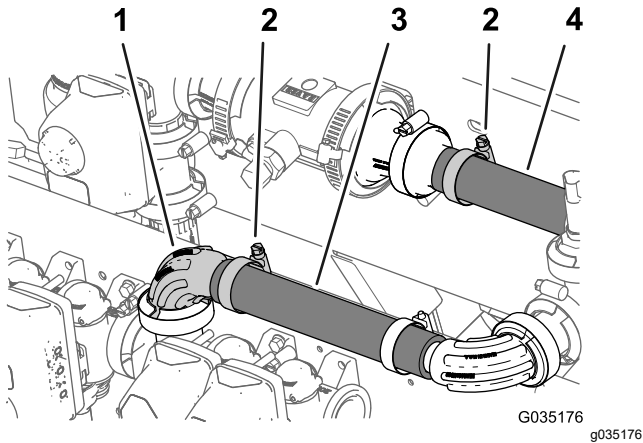

Figure 64
- Assemble the hose (1 x 8-1/2 inches) over the 90° flange fitting (1 inch) as shown in Figure 64.
- Secure the hose to the flange fitting with a hose clamp (Figure 64).
- Tighten the hose clamp that secures the hose (1 x 7-1/4 inches) to the barbed-flange fitting (1 inch) that you assembled in Installing the Pressure Transducer onto the Machine \(page 29\); refer to Figure 64.